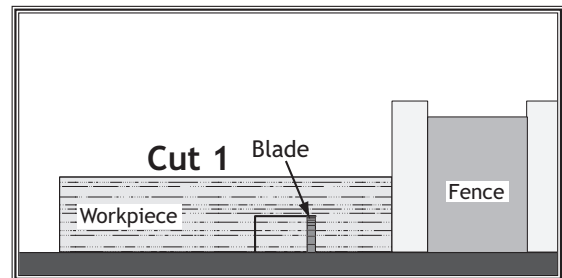

Figure 59. Single-blade dado first cut.
- If dadoing the length of a workpiece, align the blade to cut one of the dado sides as shown in **Figure 59**.